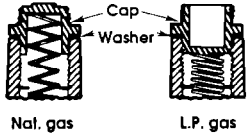

Figure 3
1. Remove the cap marked "NAT." and turn it over so it reads "L.P." Then replace the cap. Do not disturb or remove the spring beneath the cap. Check that the fiber washer is between the cap and the body of the regulator. See Figure 3 for the correct position of the cap.